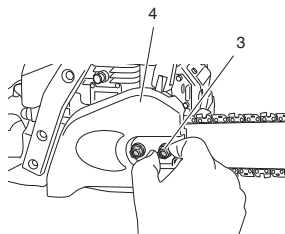

Fig. 3
2. Remove guide bar clamp nuts (3). Remove the side case (4). (Fig. 3)
Then tighten the guide bar clamp nuts (3) by hand that allows the guide bar end to move up and down easily. (Fig. 3)